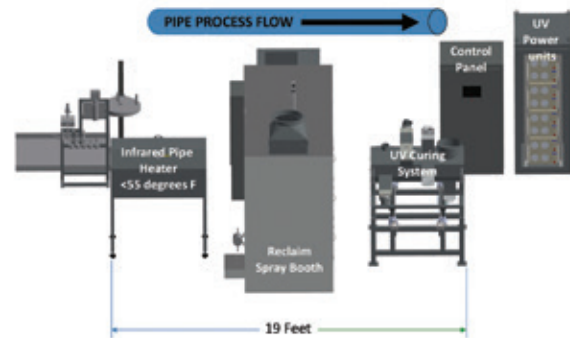

Figure 6: Typical UV coating line (courtesy of Terrell Manufacturing Services)
- Small physical footprint of equipment (see figure 6)